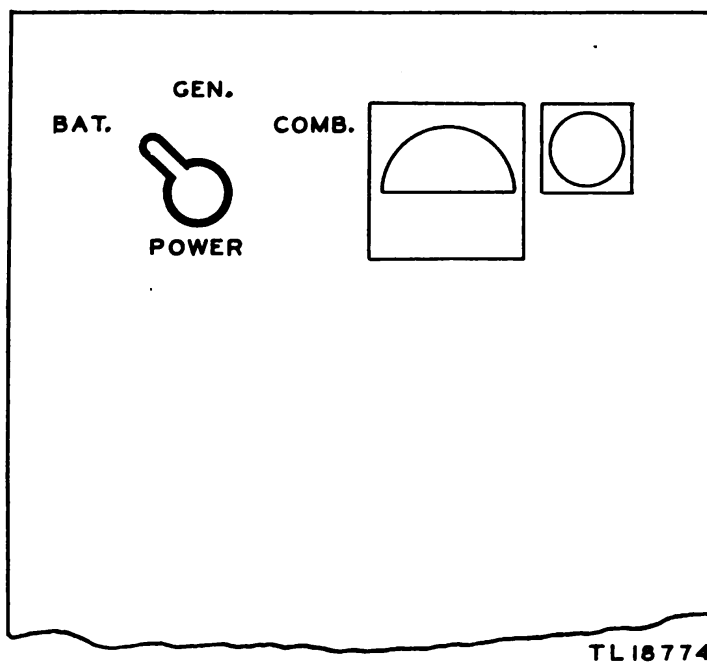

Figure 38. POWER switch.
b. POWER Switch (fig. 38). A selection of battery power, generator, or combination of battery and generator may be made with the POWER switch. With the switch at BAT. the battery supplies both the receiver and the transmitter. With the switch at GEN., the generator supplies both the receiver and the transmitter. With the switch at COMB., the battery supplies the receiver and the generator supplies the transmitter.